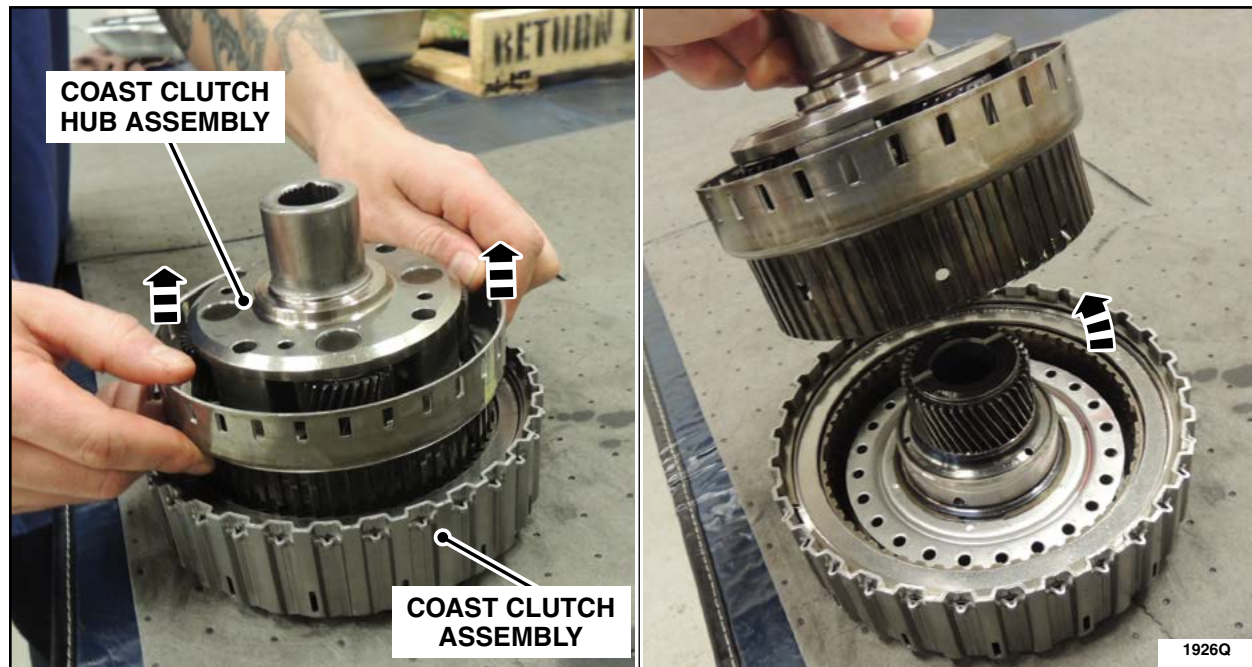

FIGURE 17
16. Separate the coast clutch hub assembly from the coast clutch assembly and set the coast clutch hub assembly aside to be reinstalled later in this procedure. See Figure 17.